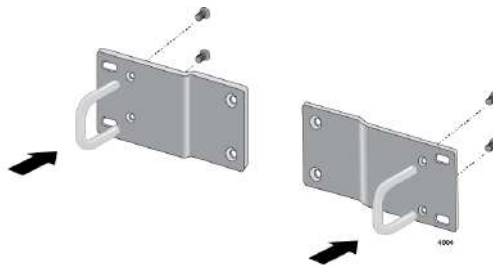

Figure 24. Attaching Handles to Brackets
3. Attach the handle to the short bracket with M3x6mm screws using a Phillip-head screw driver as shown in Figure 24.